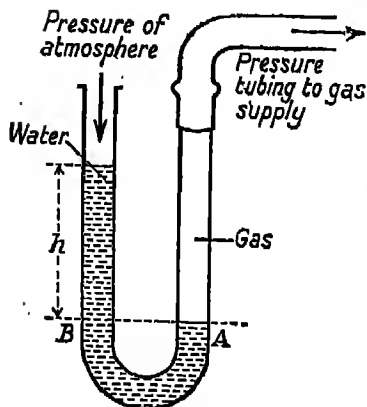

FIG. 203.
**Expt. 253.** By means of tubing connect the gas tap with a U-tube containing water (Fig. 203). Turn on the tap. The water rises